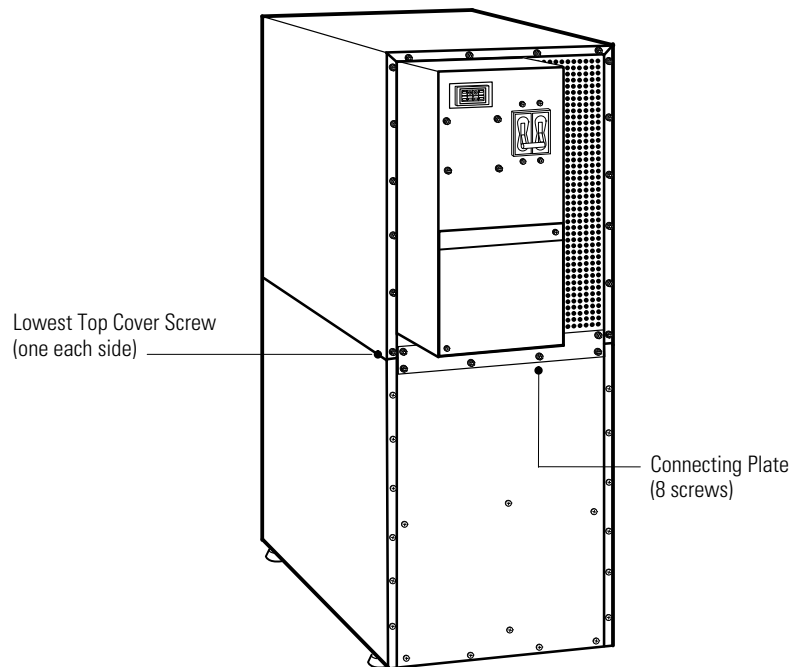

Figure 14. UPS Rear View (2-High Cabinet Shown)
1. Remove the connecting plate between the top cabinet and the cabinet below it on the UPS rear panel (see Figure 14). Discard the plate. Retain the screws for later use.